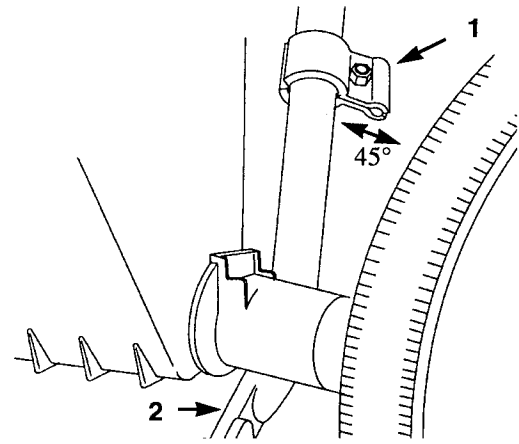

Figure 48
6. Loosely install a clamp to each side of the mower handle, using carriage bolts and lock nuts (Fig. 48). Install the clamps at a 45° angle to the ground. Make sure the clamps slide on the handle.